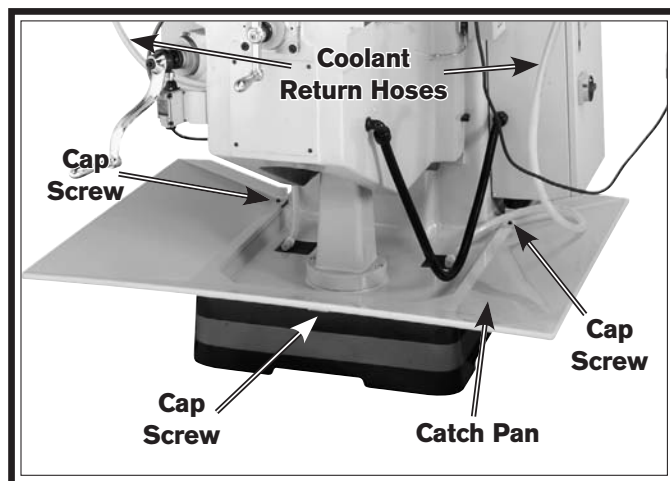

Figure 13. Catch pan and coolant return hoses installed.
11. Remove the three cap screws shown in **Figure 13** from the base rim, slide the catch pan into position, then secure it with the removed cap screws.